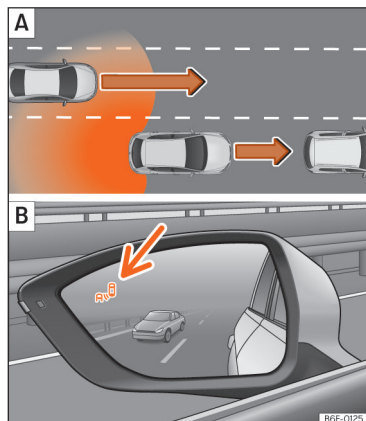
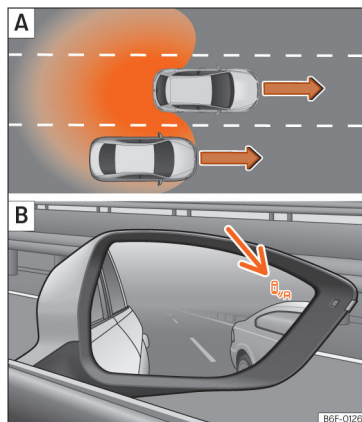

Fig. 114 Schematic diagram: **A** Overtaking with traffic behind the vehicle. **B** Side Assist indication on the left hand side.
Fig. 115 Schematic diagram: **A** Overtaking in the central lane and then joining the right lane. **B** Side Assist indication on the right hand side.
In the following situations, an indication will be displayed in the control lamp >>> Fig. 114 **B** (arrow) or >>> Fig. 115 **B** (arrow):
- When being overtaken by another vehicle >>> Fig. 114 **A**.
- When passing another vehicle >>> Fig. 115 **A** with a speed differential of approx. 10 km/h (6 mph). If the vehicle is passing at a considerably higher speed, no indication will be displayed.